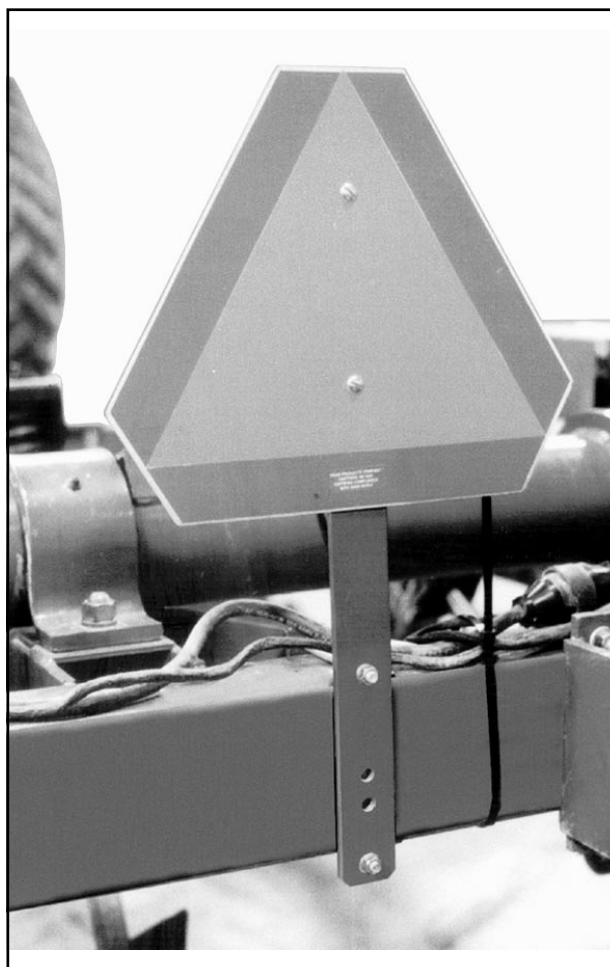

Figure 4-7 SMV Sign Mounting
- The sign is mounted on the rear bar left of the machine centerline (**See Figure 4-7**).